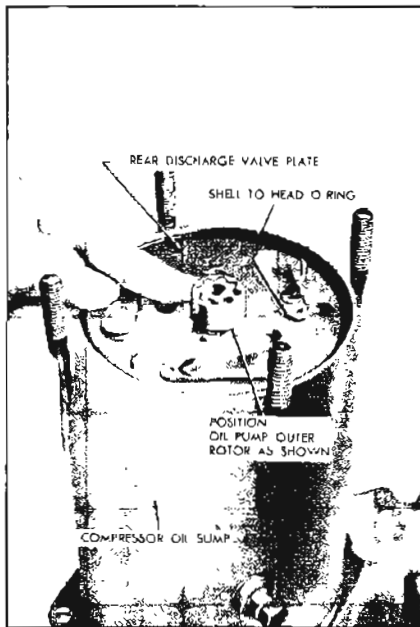

Figure 11-103—Positioning Oil Pump Outer Rotor
53. Reassemble inner and outer oil pump rotors so that the sides previously identified are in their original location, and then position oil pump outer rotor as shown in Figure 11-103.
54. Generously coat with No. 525 viscosity oil new shell to head "O" ring and install in shell (see Figure 11-103).